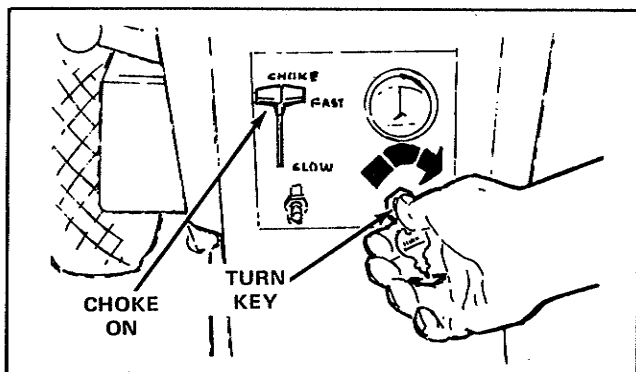

Figure 8
5. Turn the ignition key clockwise (see Figure 8) and hold until the engine starts, then release. Move the engine speed and choke control lever down to about 1/3 open.